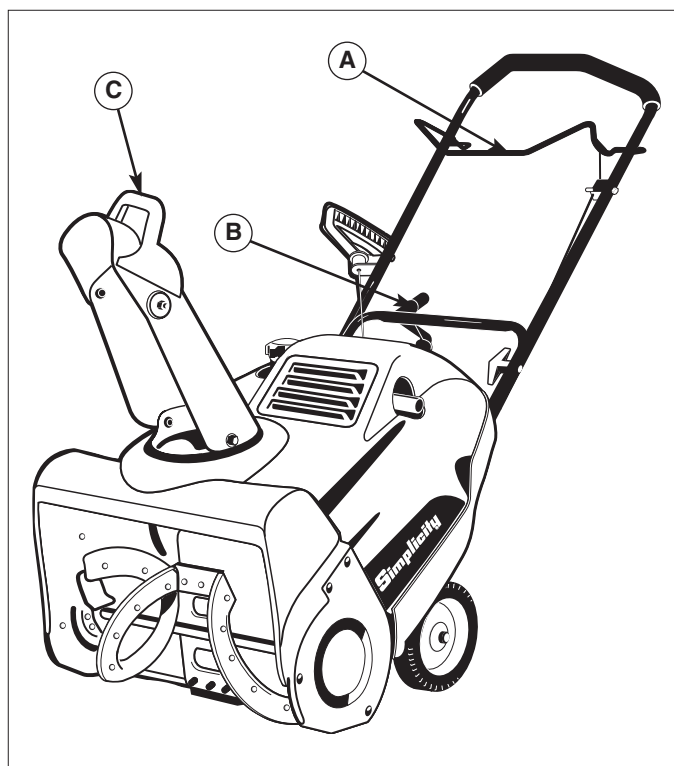

Figure 4. Snowthrower Controls
B. Chute Direction Control - The Chute Direction Control (B, Figure 4) allows the discharge chute to be rotated to throw snow in the desired direction. Snow may be thrown at any angle from straight left to straight forward, to straight right.
C. Chute Deflector - Controls the distance snow is thrown. Tilting the Chute Deflector (C, Figure 4) UP provides a higher stream and greater distance, while tilting the deflector DOWN provides a lower stream and less distance.
3. Check the Auger Control (see A, Figure 4) for proper operation. If adjustment is required, see the Service section (pages 13-15) for procedures.
4. Check the Chute Direction Control (B, Figure 4) for proper operation. The discharge chute should rotate freely in both directions. See the Service section for adjustment procedures and troubleshooting.
5. Check the Chute Deflector (C, Figure 4) for proper operation. The deflector should pivot freely up and down. See the Service Section for procedures.